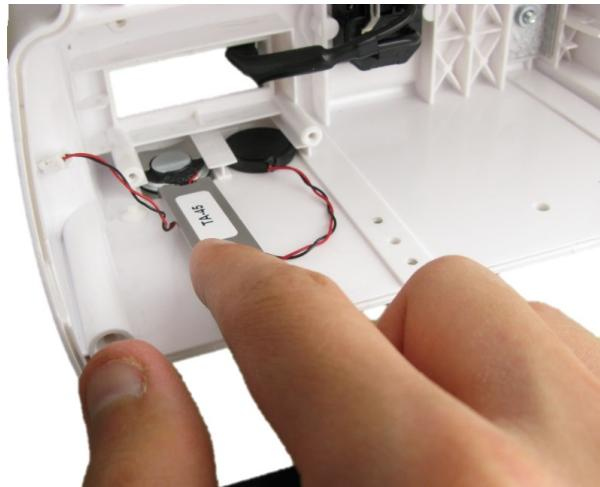

Fig. 78. Pushing in the Speaker
- to push in the **Speaker** (2) use **TA-45** to push the **Mounting plate** (3) as shown in **Fig. 78**.